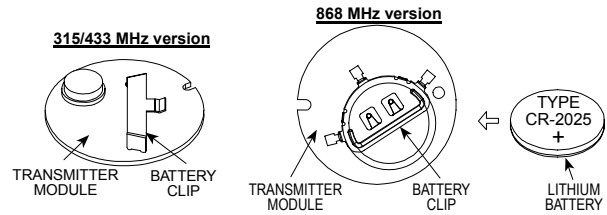

Figure 4. Battery Insertion
- Slide the old battery from under the clip in the opposite direction to the arrow shown in Figure 4.